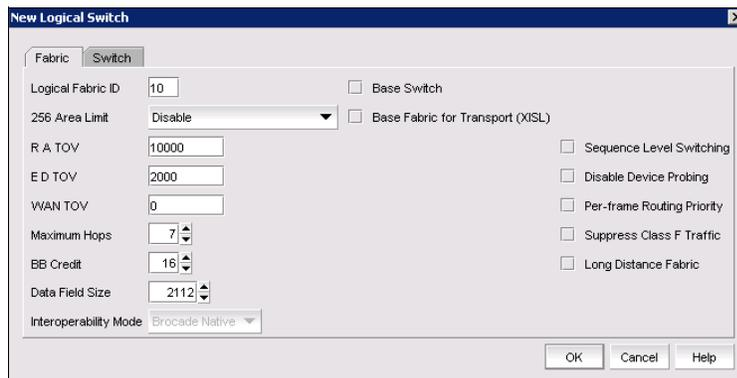

Figure 6-28 Assign fabric ID
6. Assign a fabric ID to this logical switch (Figure 6-28). Clear the **Base Fabric for Transport (XISL)** and **Base Switch** check boxes. Here we use 10 for the fabric ID of this logical switch.